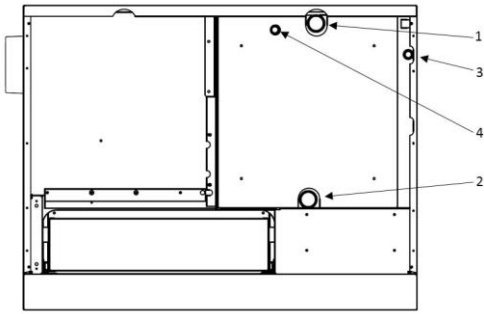
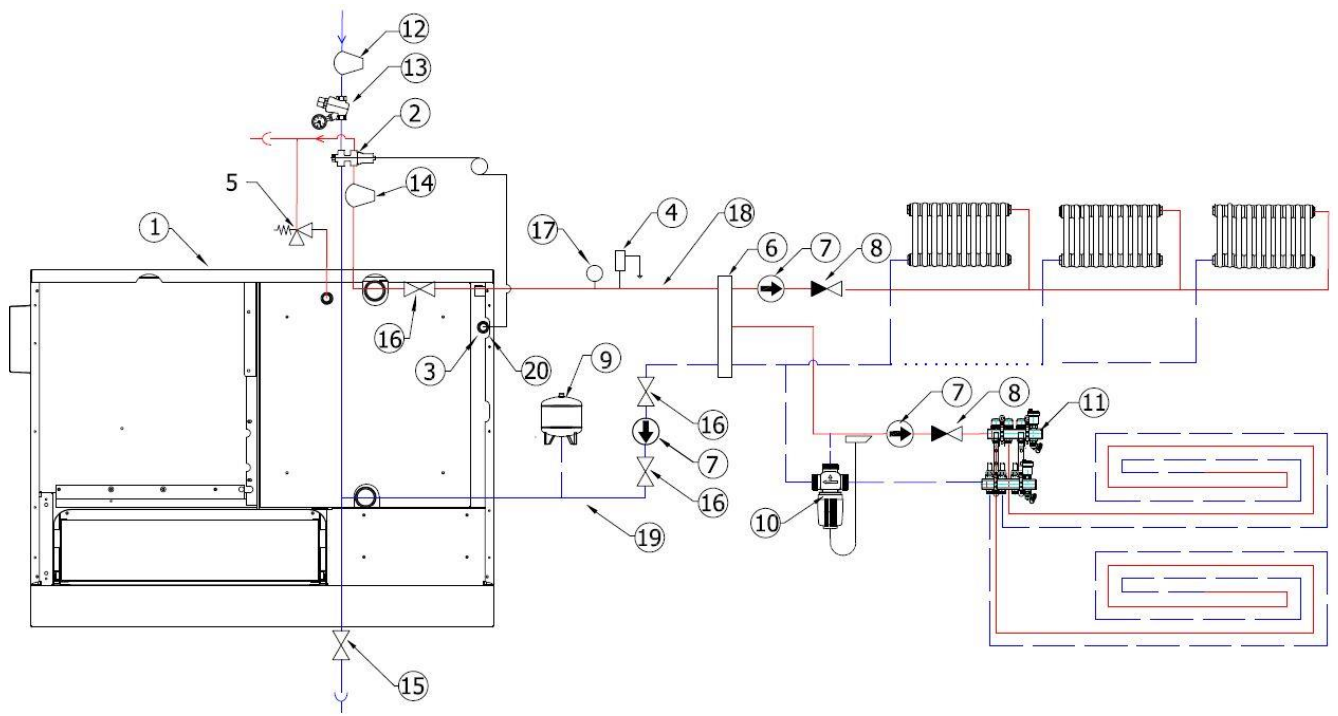
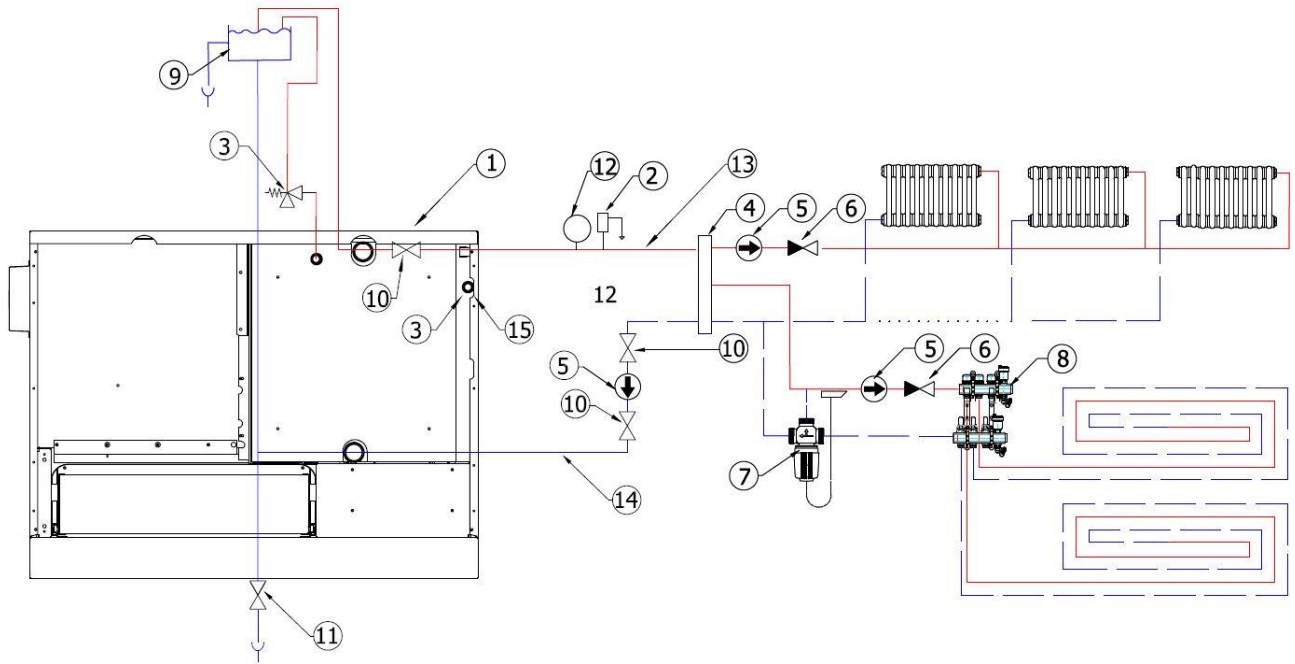

Figure 5
Figure 7
Figure 8
The stove can be installed in closed or open heating circuit. Conform to the standards: JUS M.E7.201 and JUS M.E7.202. Closed and open circuit diagrams are shown on Fig. 7 and Fig. 8.
The back of the boiler and connections are shown in Fig. 5 where:
6.1 FLOW PIPE AND RETURN PIPE (Fig. 5, pos. 1 and 2 and Fig. 7, pos. 18 and 19, Fig. 8, pos. 13 and 14)
1. Thermal release valve with built-in thermal protection type 544, 1/2", Caleffi product (Fig. 7a) and Fig. 7, pos. 2.
2. Slope pressure regulator 1/2" with manometer, the same or similar as shown in Fig. 7b and Fig. 7, pos. 13.
3. Filter for cold water at the input of the water supply to the thermal valve, Fig. 7, pos. 12.
4. Filter for hot water intake of the boiler and water outlet of thermal valve, Fig. 7, pos. 14.
Installation of thermal release valve with built-in thermal protection (Fig. 7, pos. 2 and Fig. 7a) with additional elements ensuring safe operation, such as pressure regulator (Fig. 7, pos. 13 and Fig. 7b), water filter on the boiler intake (Fig. 7, pos. 12) and water filter on the boiler outlet in closed central heating system is **MANDATORY**. This specially refers to a closed system, when the radiators are submerged and where in case of termination of the pump operation for any reason, the water temperature in the boiler rapidly increases and overheating occurs very quickly.
6.2 THERMAL RELEASE VALVE WITH INSTALLED THERMAL PROTECTION (Fig. 7, pos. 2 and Fig. 7a)
The thermal release valve probe (Fig. 7, pos. 3) is best be placed in the thermal valve connection on the boiler itself (Fig. 7, pos. 20). It can be placed on the discharge - distribution pipe (Fig. 7, pos. 18), but at a distance from the boiler of 500 mm the most or at the highest point of the boiler before the exhaust pipes.
Figure 7 shows the connection diagram for the thermal release valve.
6.2.2 SLOPE PRESSURE REGULATOR 1/2" WITH MANOMETER (Fig. 7, pos. 13 and Fig. 7b)
When installing the thermal release valve, it is mandatory to install a slope pressure regulator as shown in the Figure 7, pos. 13. The pressure that is maintained by pressure regulator must be set at a higher pressure than the pressure that is in the heating system. If you do not have a higher water pressure of at least 0.8 bar compared to the pressure in the heating system, the thermal release valve will not work or cannot inject cold water into the boiler that needs to be cooled.
6.2.3 WATER FILTER OF THE BOILER INTAKE (Fig. 7, pos. 12)
6.2.4 WATER FILTER OF THE BOILER OUTLET (Fig. 7, pos. 14)
6.3 SAFETY VALVE (Fig. 7, pos. 5, Fig. 8, pos. 3 and Fig. 5, pos. 4)
An R1/2" connection (Fig. 5, pos. 4) is welded at the back of the boiler, under the cooktop frame, on which a safety valve **MUST** be fitted. The safety valve should be set at 2.5 to 3 bars. You can fit it directly on the connection or at a distance from the connection of at least 1 m, provided that there is no block valve between the boiler and the safety valve.